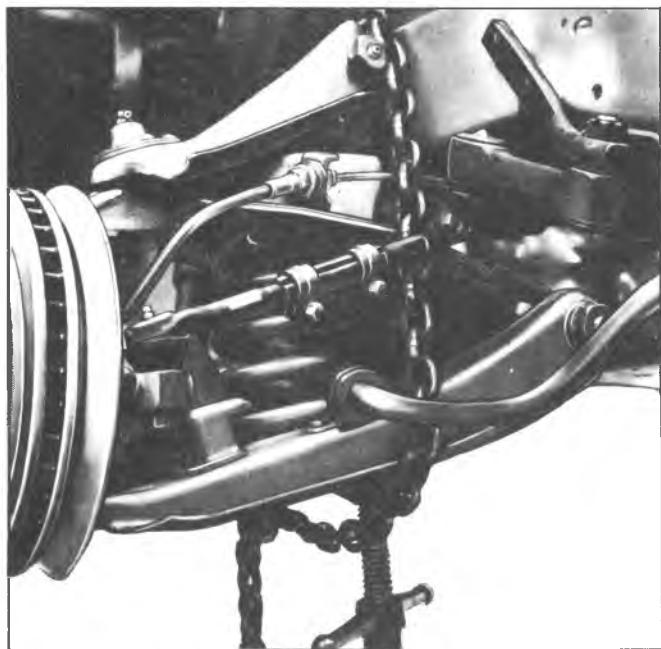

Fig. 29—Removing Inner Pivot Shaft
**Lower—Removal (Fig. 29)**
3. Install a chain over upper arm (Fig. 29). Inboard of stabilizer and outboard of shock absorber as a safety measure.